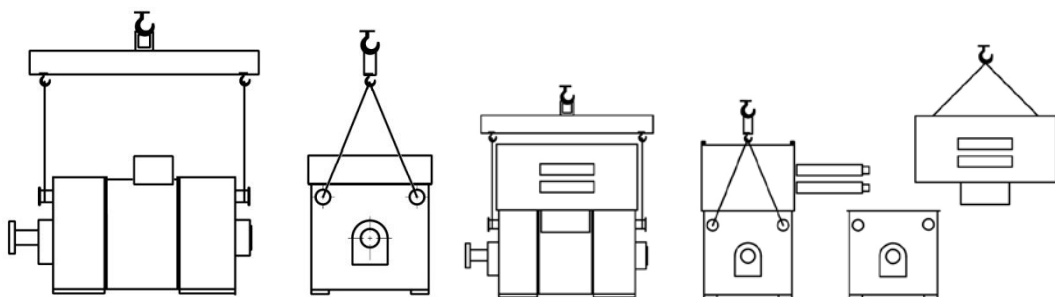

Figure 4-3 Machine lifting
- For lifting the goods use only the designated lifting points and/or at marked positions. Use suitable strap guiding or spreading devices. All of the information necessary to correctly lift, attach, and transport of the machine is provided in the machine dimension drawing in the Appendix B “Technical data and drawings“. For example see “Figure 4-3”.